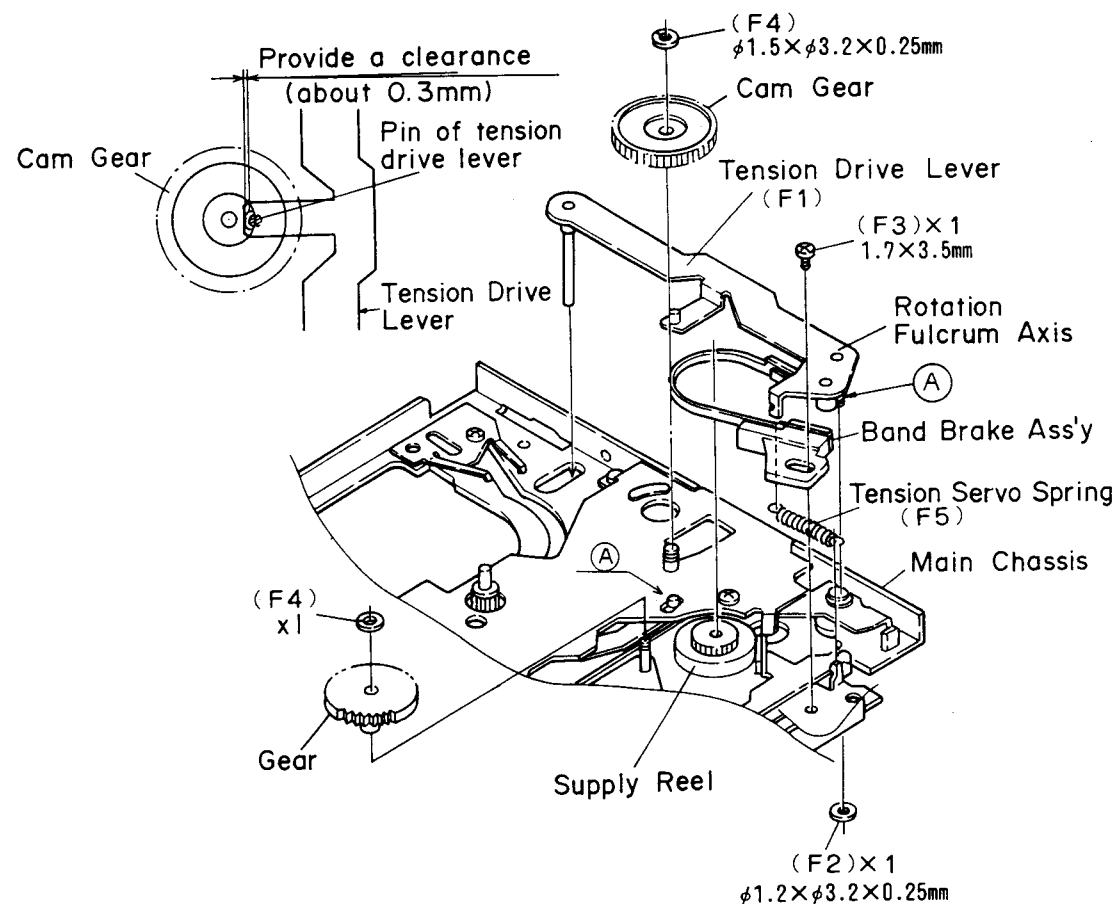

Figure 31-1
REMOVING AND REINSTALLING THE BAND BRAKE (Fig. 31-1)
1. Assemble the tension drive lever and the band brake assembly. (Fig. 31-1, part A)